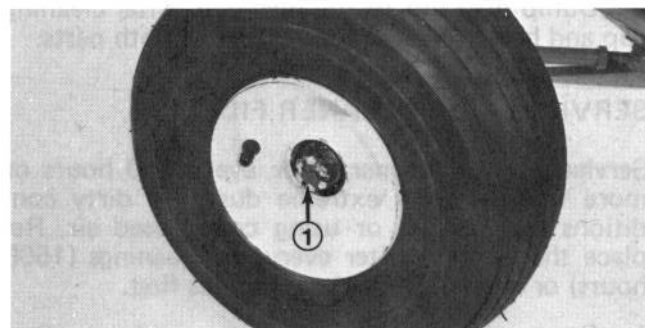

Figure 52
7. Slide wheel assembly onto spindle shaft and secure it in place with flatwasher and slotted nut (Fig. 52). Do not tighten the nut and do not install the cotter pin.